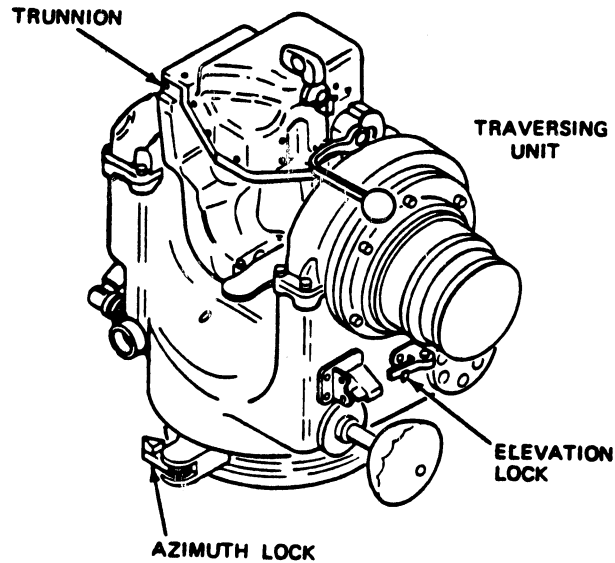

Fig 4-44. Traversing unit.
Step 2. Put the azimuth lock on the traversing unit in the LOCK position and turn the traversing unit from side to side until it locks in place. Put the elevation lock in the LOCKED position and tilt the trunnion until the launch tube is locked down (fig 4-44).